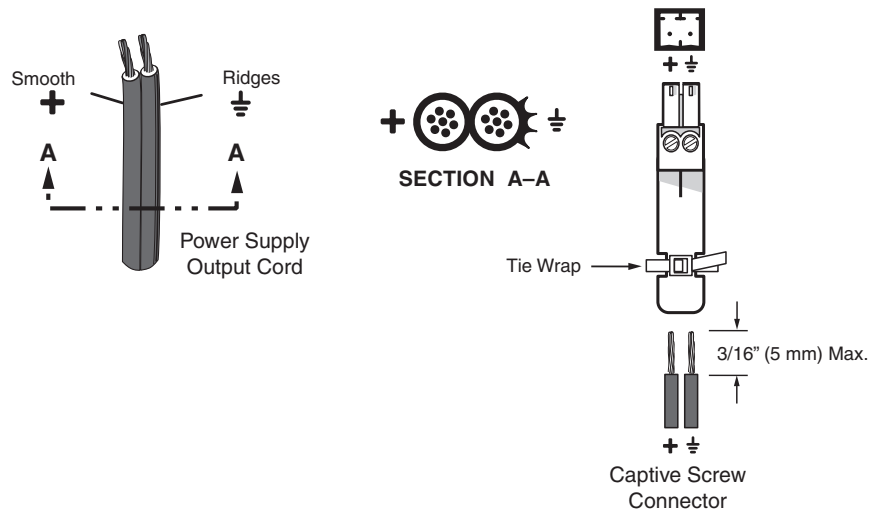

Figure 4. Power Connector Wiring
- When you are connecting the power supply, voltage polarity is extremely important. Applying power with incorrect voltage polarity could damage the power supply and the regenerator. Identify the negative lead by the ridges on the side of the cord (see figure 4). To verify the polarity before connection, plug in the power supply with no load and check the output with a voltmeter.